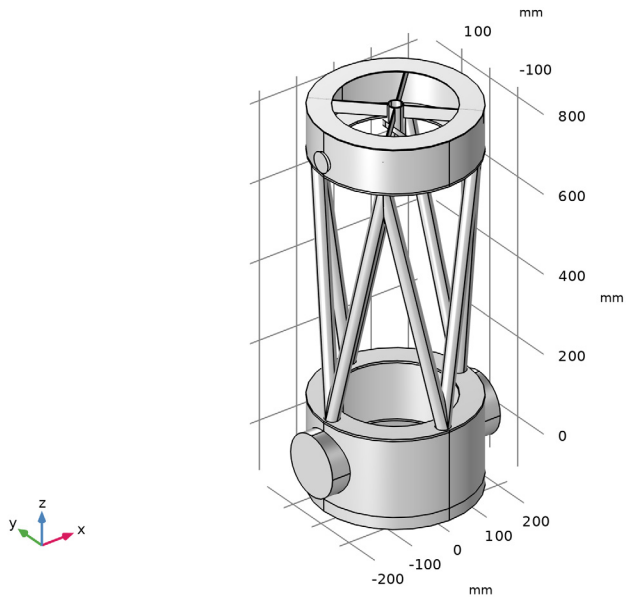
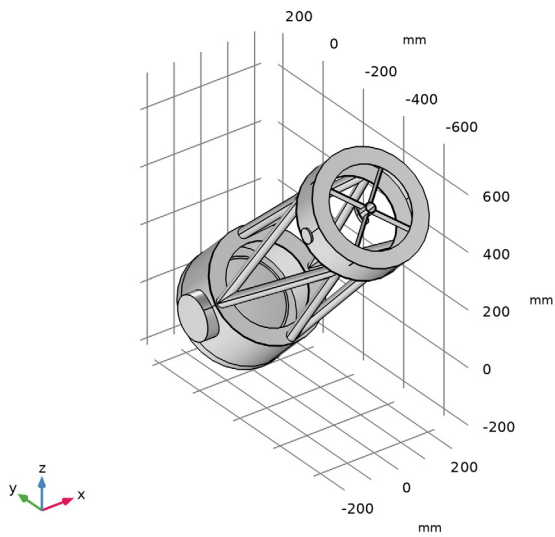

Figure 3: The Newtonian Telescope Structural Analysis geometry sequence.
Figure 4: The geometry sequence at an inclination of  $45.0^\circ$ .
After insertion, the geometry will look like Figure 3. After adjusting the parameter ( $\theta$ ) defining the telescope inclination to  $45.0^\circ$ , the geometry will look like Figure 4.
- 8 Click the  **Orthographic Projection** button in the **Graphics** toolbar. Compare the resulting geometry to Figure 3. In the following steps, change the telescope inclination to 45 degrees.
- 1 In the **Geometry** toolbar, click  **Build All**. Compare the resulting geometry to Figure 4.